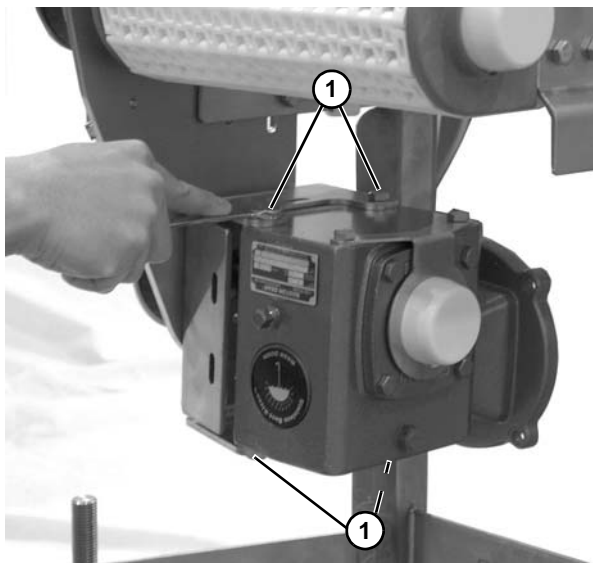

Figure 21
5. Remove four gear reducer mounting bolts (**Figure 21, item 1**). Remove gear reducer.